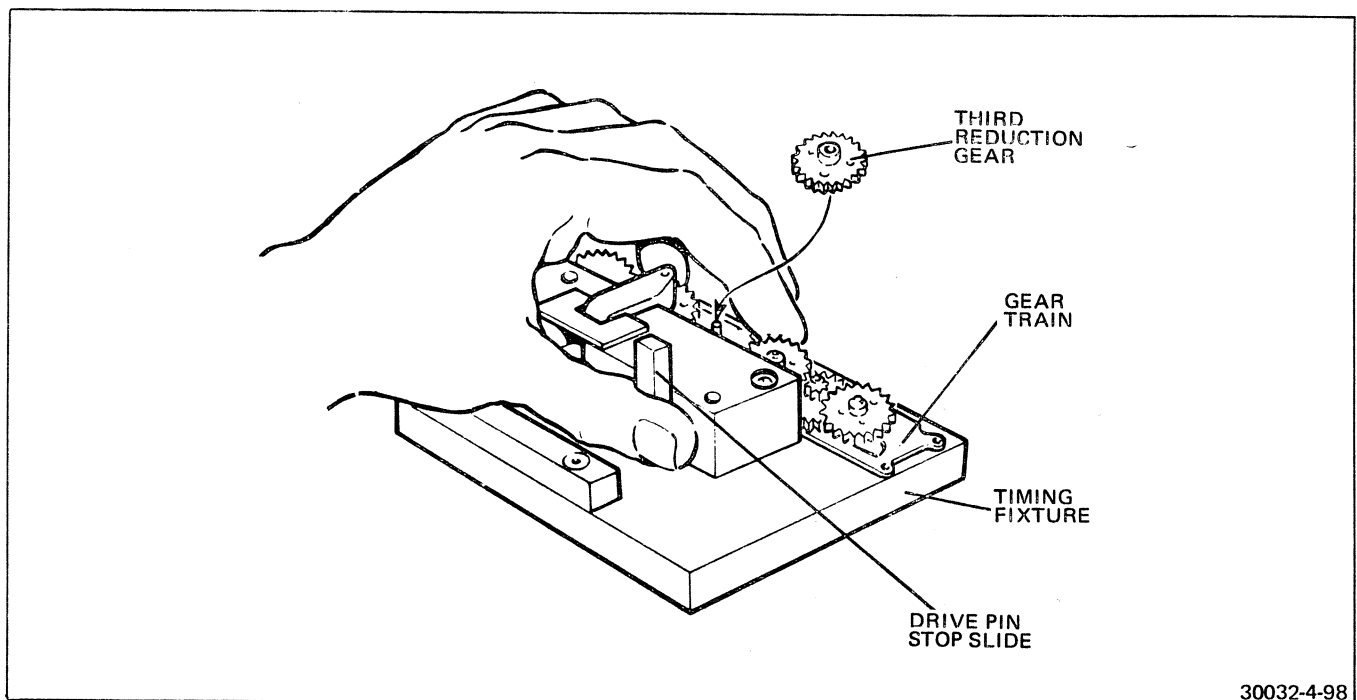

FIGURE 4-98 INSTALLING THIRD REDUCTION GEAR
24. Refer to Figure 4-98. Orient the fixture with the gear train in place so that the gear train is on the far side of the fixture. Place the left thumb against the stop slide. With the tip of the third finger drive the second idler gear, clockwise, firmly to its stop. This is the second gear from the left with the fixture placed just